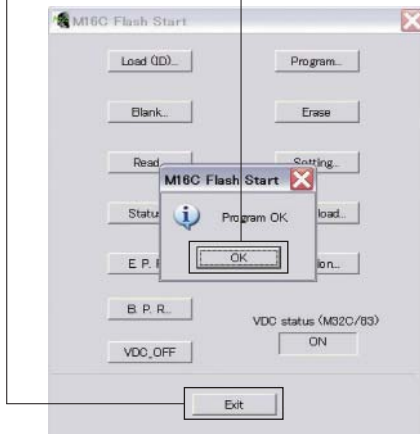

Fig. 7
9. When writing of the firmware is completed, the screen appears as shown below. (Fig. 7)
Click [OK]. (Fig. 7)
画面が表示されます。(Fig. 7)
[OK] をクリックします。(Fig. 7)
10. Click [Exit] to end FlashSta.exe. (Fig. 7)
(Fig. 7)